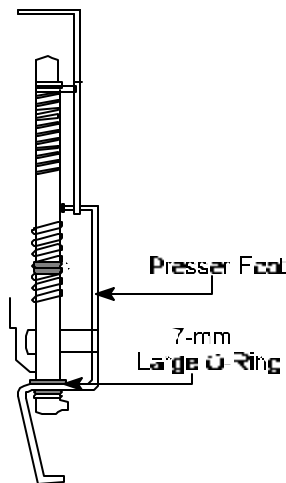

Figure 7
18. **Move** Presser Foot down to its lowest position and **remove** 7 mm O-ring. See Figure 7.